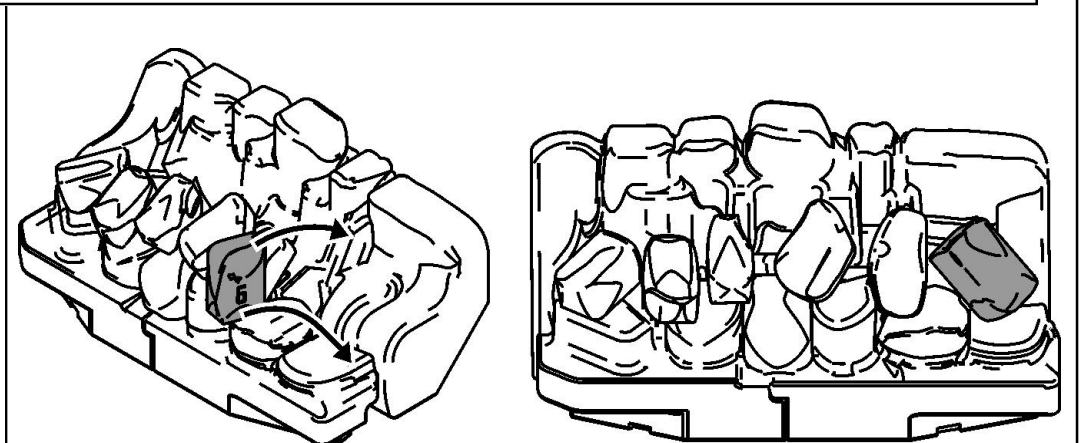

Figure 9. Third row "Coal G"
**11.** Hold coal 'G' upright with the arrow pointing to the top. Locate coal 'G' as shown in figure 9.